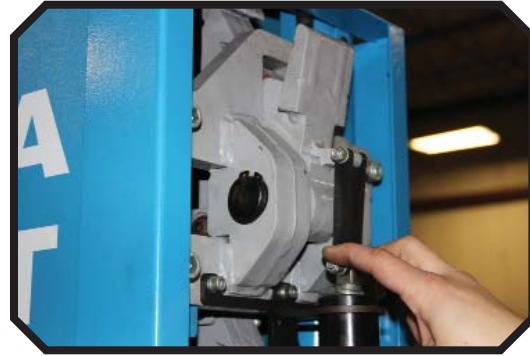

Fig. 18
- Remove the back cover of the column and pull the safety pawls from the locked position by pulling the connector rods as shown in Fig. 18. This is to avoid the locks reengaging;